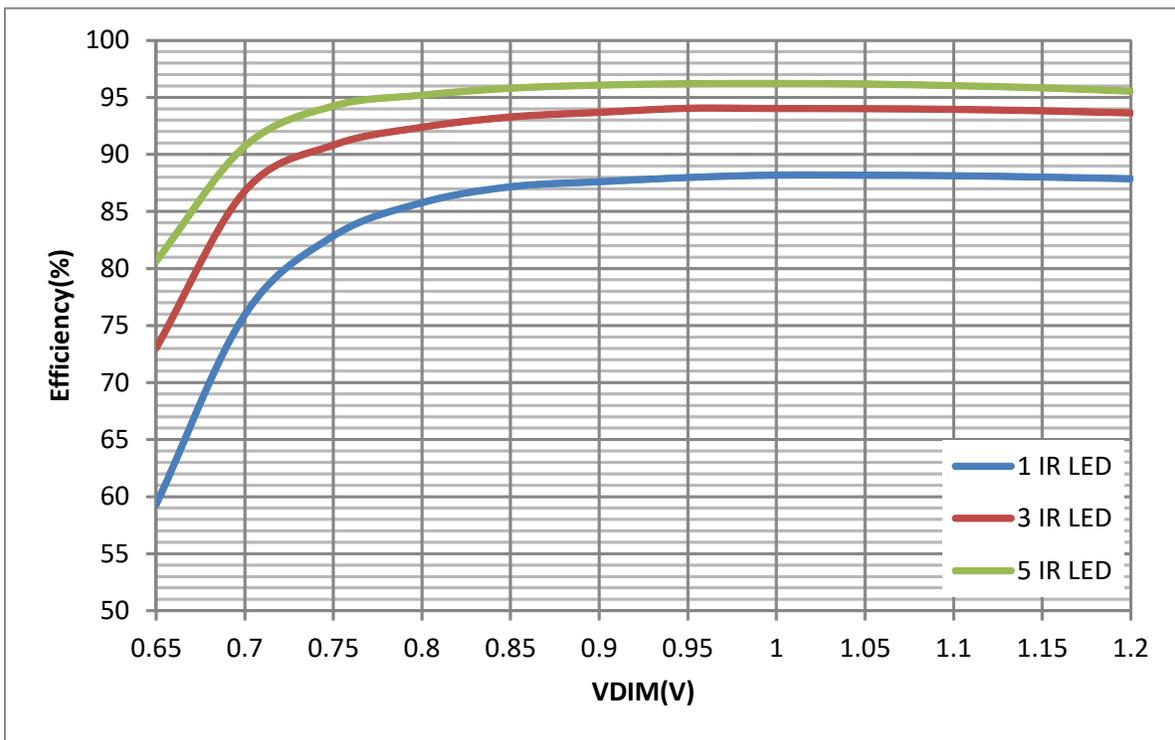

Figure 1. Efficiency vs. VDIM in Analog Dimming Mode(TPS92200D1), 1.5 A at $VDIM \geq 1.2V$, $V_{IN} = 12 V$
Figure 1 shows the efficiency versus VDIM in analog dimming mode. The maximum LED current is 1.5 A when the VDIM is 1.2V. $V_{IN} = 12 V$, and an infrared (IR) LED load is used. The typical forward voltage of an IR LED is 1.7 V at 1.5 A. The LED number in series is 1, 3, and 5, respectively.